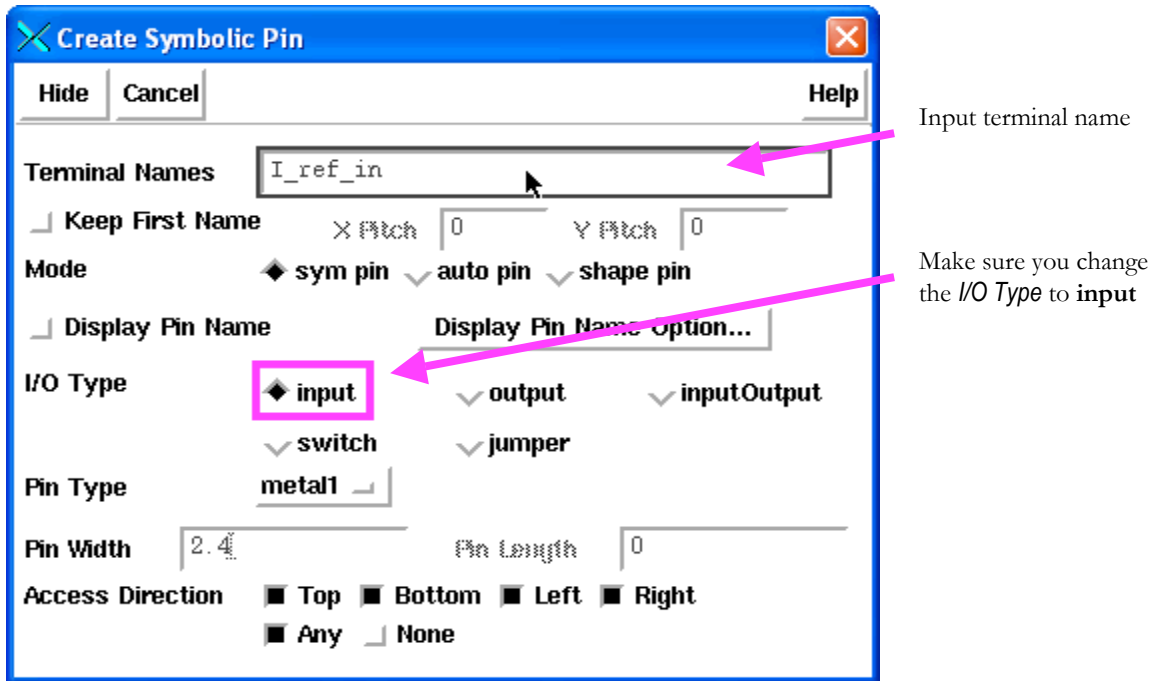
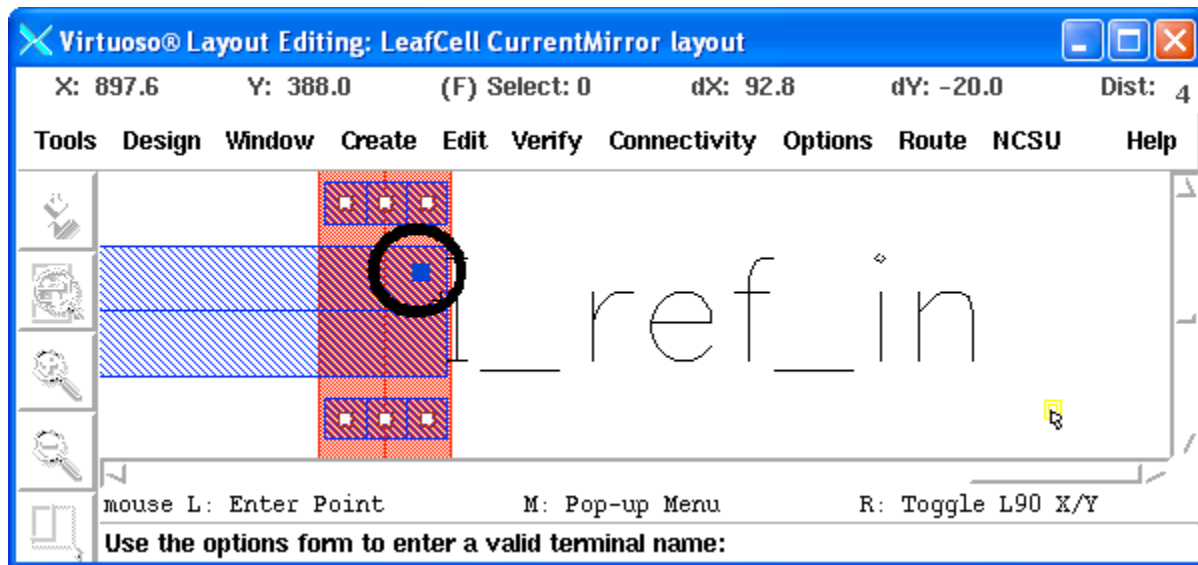

Figure 85: Adding the input pin.
Figure 86: Stamping down the input pin.
25. Go back to the *Create Symbolic Pin* form; fill in the input pin name, I_{ref_in} (Figure 85), and stamp it down as in Figure 86.